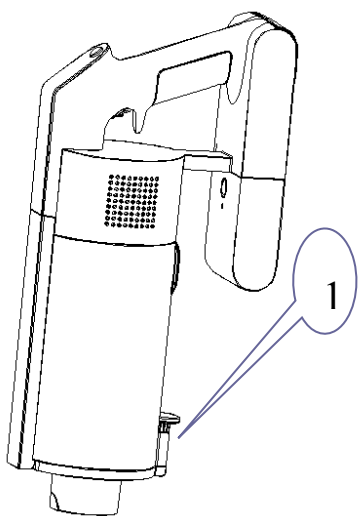

Figure 6-1
6.1 Cleaning after use & Cleaning after dust cup is full: When the dust cup is full, keep the vacuum cleaner above the dust bin. Push the dust release key (NO.1) with your fingers to make the dust cup cover (NO.2) rotate downward, and the dust in the dust cup will fall into the dust bin, as shown in Figures 6-1 and 6-2. Then pull the dust cup release button (NO.3) to remove the dust cup from the main unit, as shown in Figure 6-3.